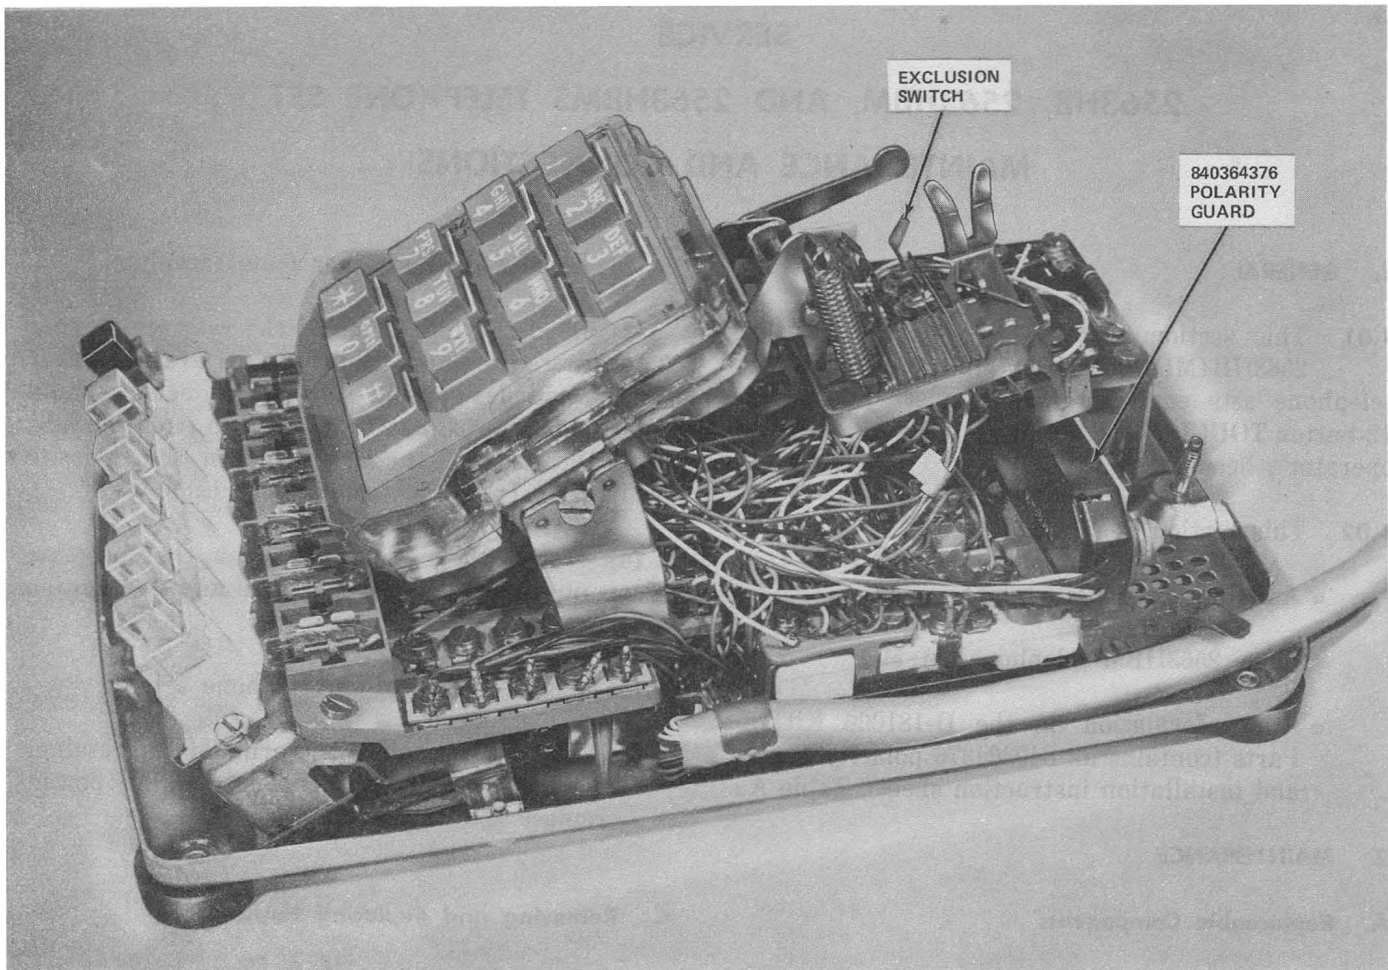

Fig. 1—2563HBMS Telephone Set With Polarity Guard Installed
3.02 A D-181006 Kit of Parts containing an 840364376 polarity guard and instruction sheet should be used with these sets when specified by local instruction to eliminate the affects of battery and ground reversals encountered in end-to-end signaling (Fig. 1 and Table A). Station busy lamp indication, showing only that the handset is off-hook or that the headset key is in the ON position, can be provided for 1A1, 1A2, ♦6A, or 6B♦ KTS by use of a 533K diode or equivalent♦ which must be ordered separately and connected as shown in Fig. 2. This connection **will not** indicate that a line pickup button is depressed. Station busy for 1A KTS is a wiring option shown in Fig. 3.